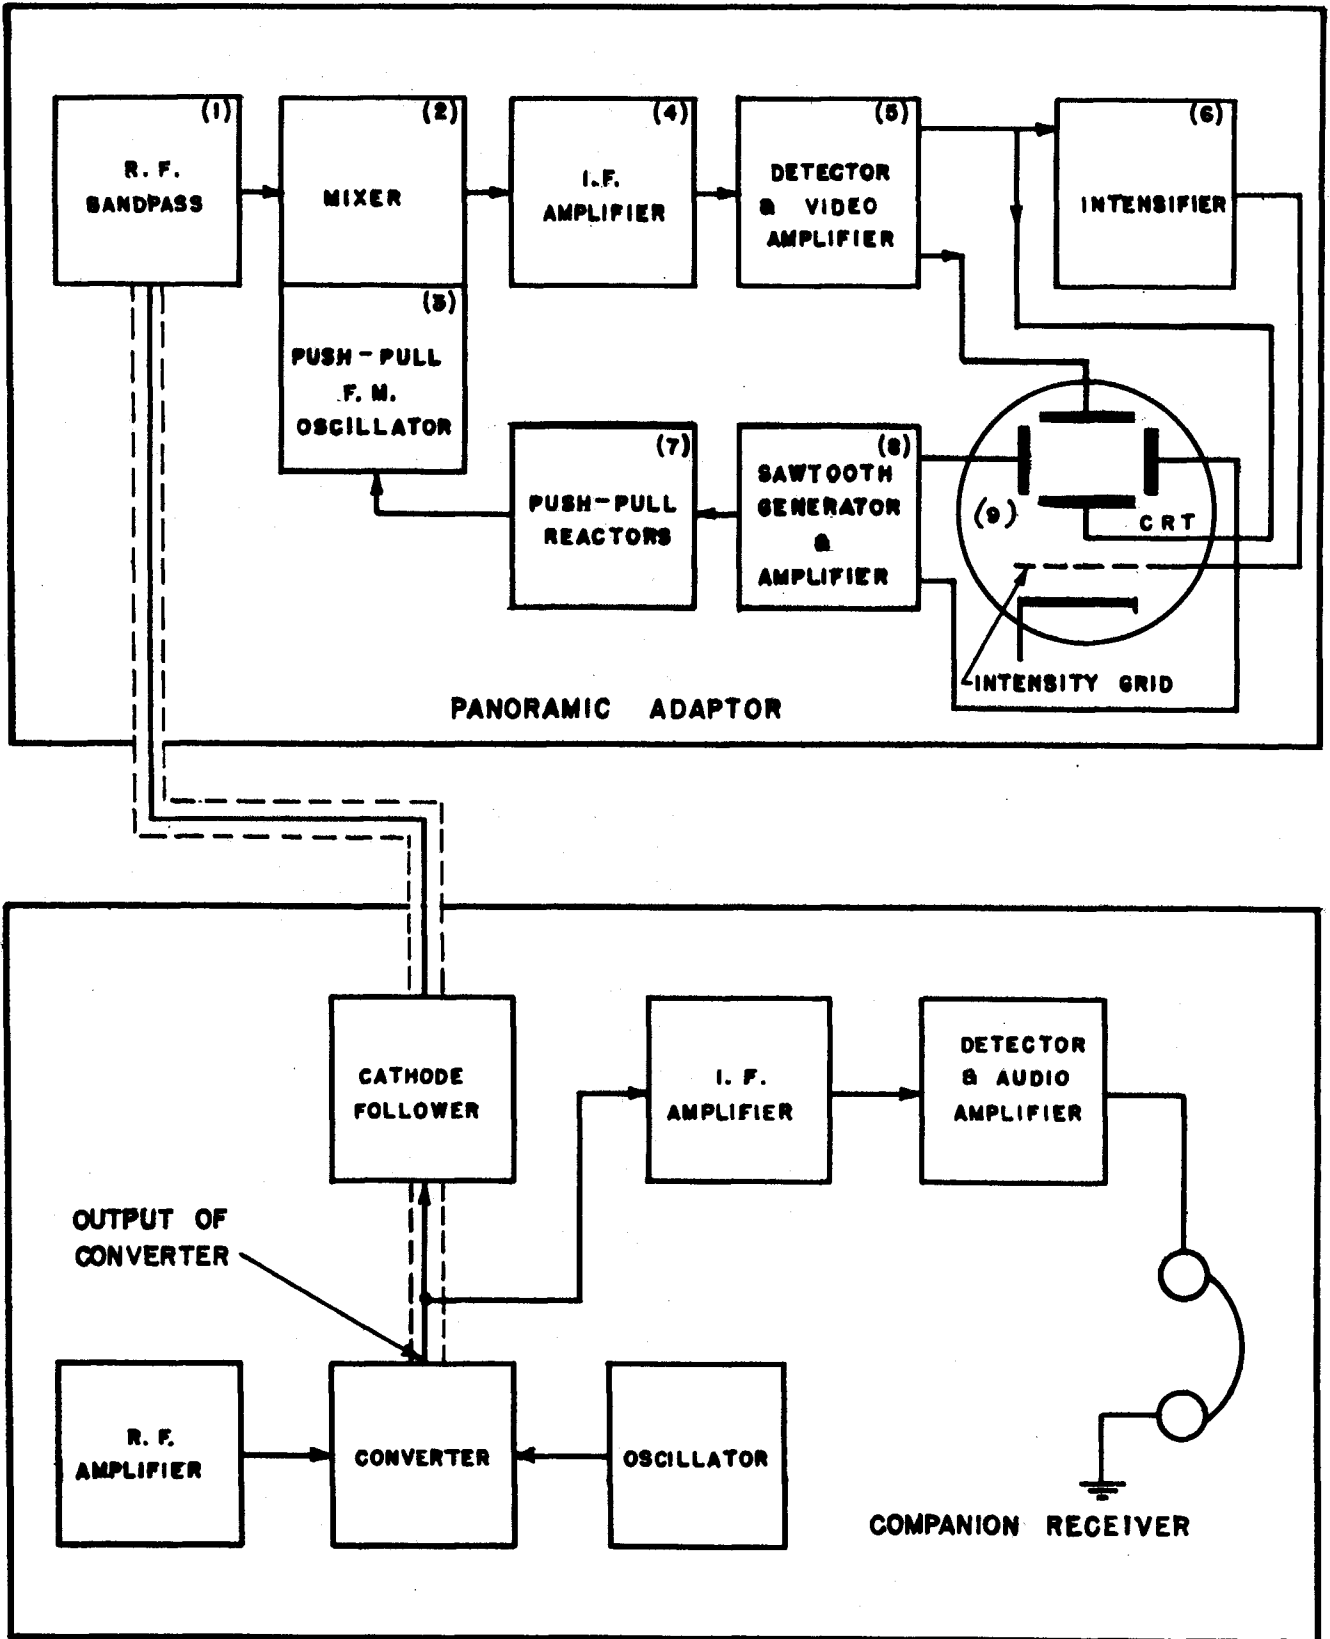
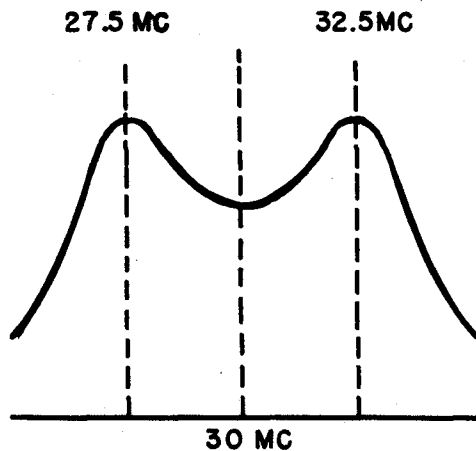

Figure 4-1. - Navy Model RDP, Block Diagram.
Figure 4-4. - Navy Model RDP, Bandpass Characteristic of Input Transformer.
Therefore, due to the overall selectivity characteristics of the R.F. section of the receiver and the special input bandpass amplifier (Fig. 4-1 block (1)) of the adaptor, signal voltages within a band of 10 mc. can be fed to the mixer (Fig. 4-1, block (2)) of the adaptor. The mixer also receives, from an FM oscillator (block (3)), a voltage which sweeps through a bandwidth of 10mc. As the oscillator sweeps through the band of 10mc., it beats progressively and periodically with one signal after another to produce an I.F. of 7.5mc. Thus, one signal after the other is periodically amplified by the I.F. Amplifiers (block (4)) which are tuned to 7.5mc.
a. Bandpass Amplifying Section.— Refer to the block marked (1) in Figure 4-1. This section uses, in cascade, two JAN-6AC7 tubes, V101 and V102, which are high gain pentodes. The first stage of this two-stage section is connected to the output of the mixer of the companion receiver through a cathode follower circuit. The stage is an R.F. amplifier whose output is fed into a specially designed R.F. input transformer, T101-09, which couples the first and second stages. The primary and secondary of this transformer are tuned by distributed circuit capacitances. The coupling between the primary and secondary is such that it produces a double humped bandpass characteristic as shown in Figure 4-4. The humps appear at approximately 27.5mc. and 32.5mc.